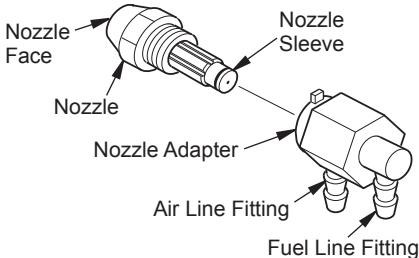

**Figure 22 - Removing Nozzle Assembly, All Models**
4. Turn nozzle assembly 1/4 turn to left and pull toward motor to remove (see Figure 22).
10. Attach nozzle assembly to burner strap (see Figure 22).